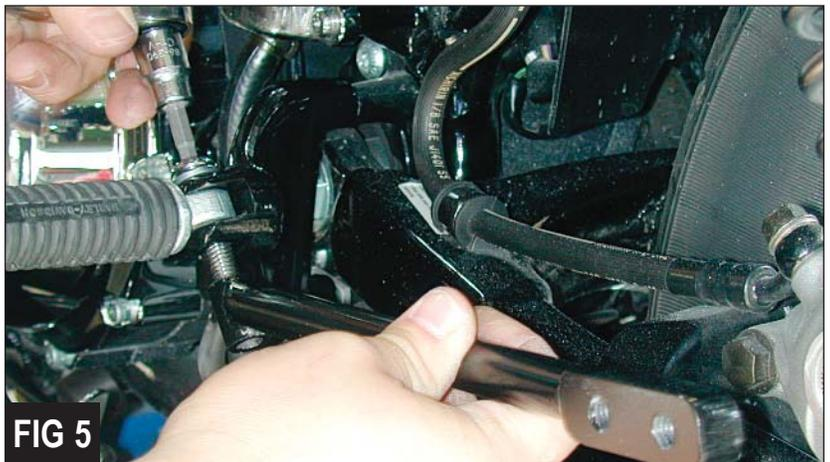

FIG 5
11. Install the lower left bracket onto the foot peg mount and secure with supplied 3/8" x 16 x 1 3/4" bolt and lock washer (Figure 5). Don't tighten completely yet.